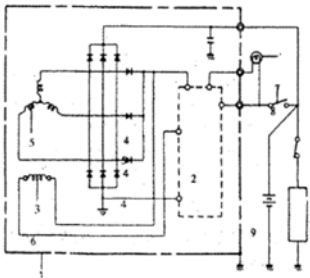

Figure 6.1-2 Working Principle of Alternator
(II) For principle of work, see Figure 6.1-2.